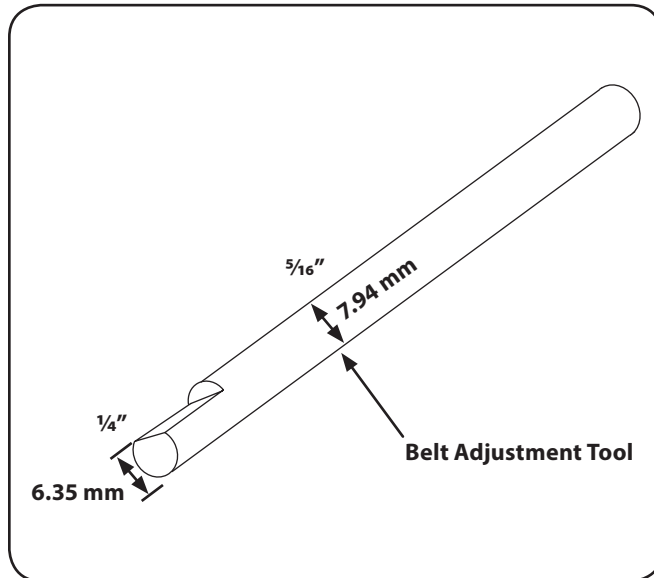

Figure 6-12
1. Before taking a measurement, be sure the linkages and pivot points on the Wheels/Tines/PTO Drive Lever are clean and lubricated. If there is any binding, you won't get true measurements. Also, you'll need the belt adjustment tool you received with your new tiller. See Figure 6-12.